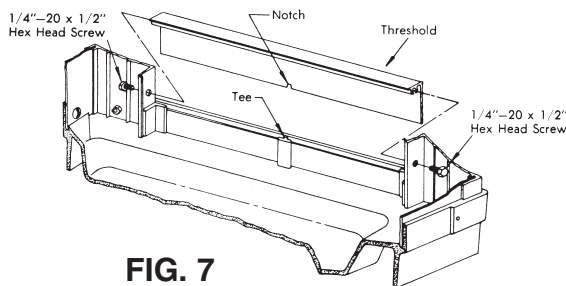

FIG. 7
8. Set **Threshold** in place between the front support extrusions. Be sure that threshold "notch" is locked into base "tee" section. Insert a **1/4"-20 Hex Head Screw** through the pre-punched hole in the front support flange and screw into the threaded area of the **Threshold**. Follow the same procedure for the other side. After both screws are started, tighten securely. (FIG. 7)